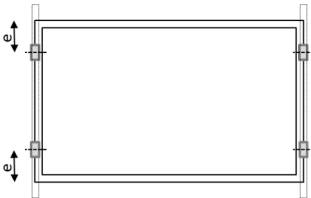

Fig. A2: Clamp position on short frames
**Table.A2-1 Test load using clamps on short frames (see Fig. A2)**
**Table.A2(-1) Design load using clamps on short frames (see Fig. A2)**